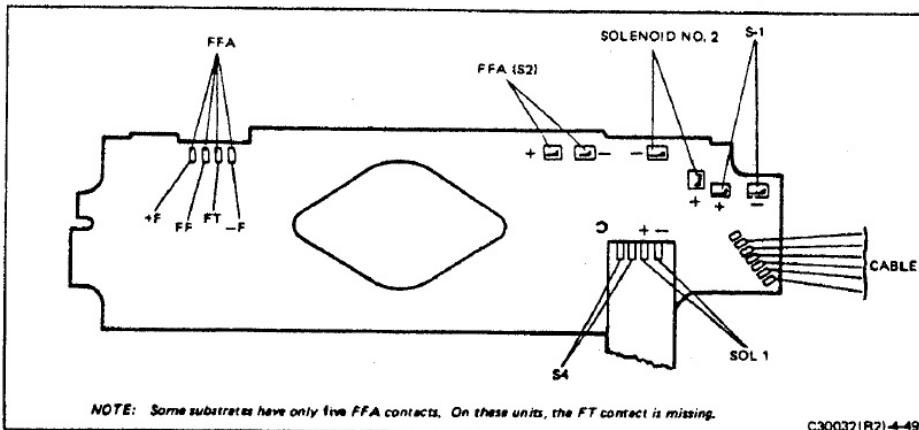
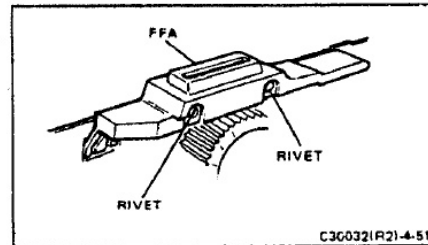

FIGURE 4-49 SUBSTRATE SOLDER CONNECTIONS
FIGURE 4-51 FFA RIVET LOCATIONS
- Unsolder the S1 and Solenoid #2 contacts from the substrate (Figure 4-49).
- Carefully dress the contacts over their pads on the substrate (refer again to Figure 4-49) and solder the solenoid #2 and S1 contacts. (When soldering the S1 contacts use care to prevent
- b. At the substrate, identify the six FFA contacts (see Figure 4-49). Unsolder the contacts as follows:
- (1) Apply heat to one contact at a time.
- (2) As heat is applied, use an Xacto knife to raise each connector. Use extreme care to prevent damaging the substrate.
- c. After unsoldering all six FFA contacts, press out the two rivets securing the socket to the casting (Figure 4-51). Carefully lift the socket assembly free of the casting, avoiding damage to the contacts.
- d. Using a miniature soldering iron (e.g., Weller W-TCP-L or equivalent) heat each of the connections on the substrate (refer again to Figure 4-49). With the point of an Xacto knife, gently lift the terminal up and away from the substrate. Repeat this for each of the connections on the substrate.